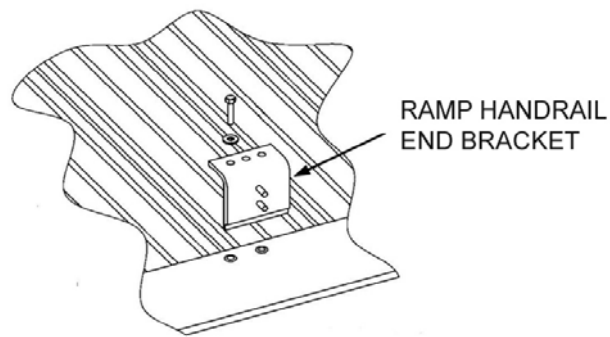

FIG 15b
- b. For 10' ramps, two additional ramp handrail end brackets are installed using one 5/16" x 1 1/2" bolt & washer at the center of each ramp section (FIG 15b). **NOTE:** Ensure holes in ramp handrail end bracket align with threaded inserts in ramp. Install one fastener into either of the two inserts.